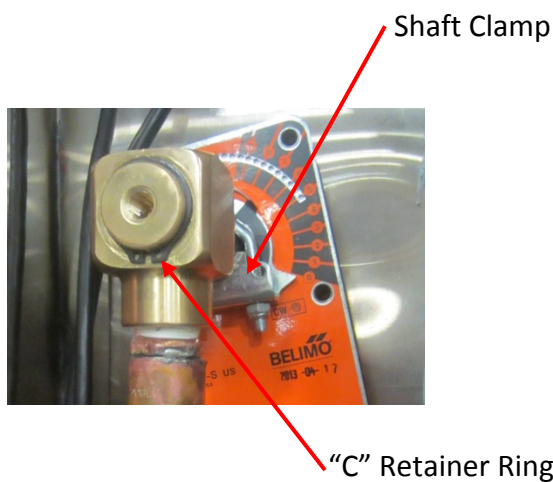

Figure 4-38-1
- 5) Remove the “C” retainer ring from the brass swivel elbow (Refer to Figure 4-38-1).
- 8) Loosen the shaft clamp around the manifold (Refer to Figure 4-38-1)
- c) Remove the "C" retainer ring from the brass swivel elbow (Refer to Figure 4-38-1).